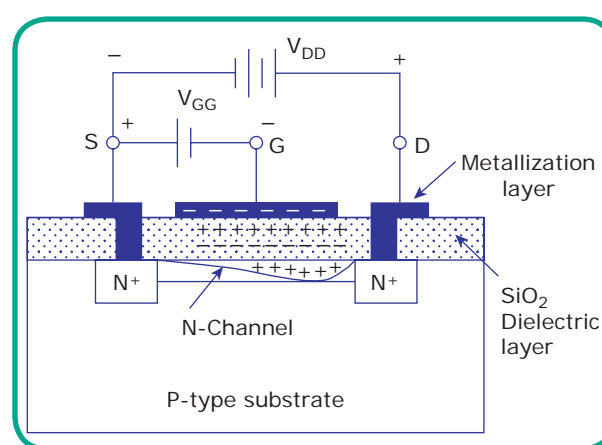

Figure 6.14 Operation of N-Channel DE-MOSFET
**Depletion Mode:** Figure 6.14 shows the n-channel depletion mode operation. In this mode, the gate is